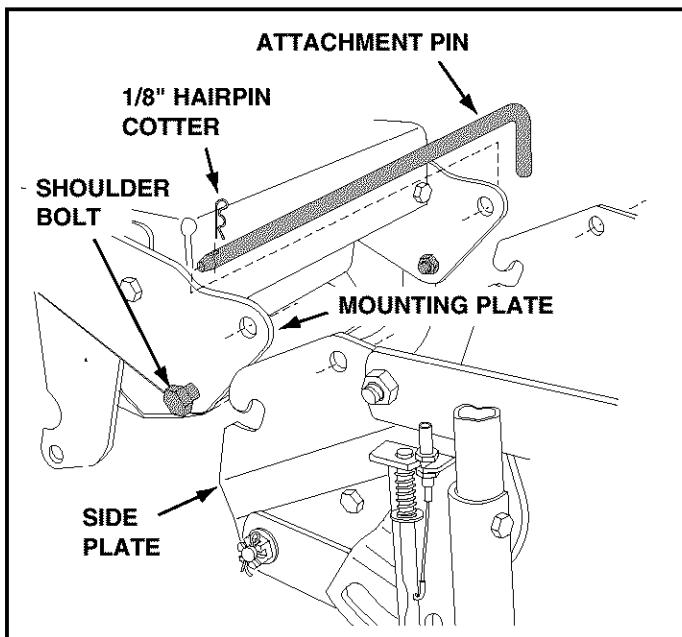
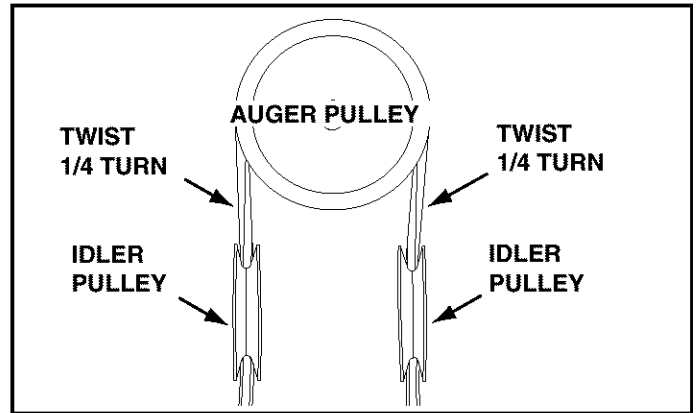

FIGURE 29
FIGURE 30
- To ease the assembly of the auger drive belt, delay the installation of the attachment pin shown in figure 29 until you have assembled the belt as instructed for figures 30 and 31.
- The auger belt comes preassembled to the pulleys on the snow thrower housing. Make sure the belt passes over the top of the auger pulley and then twists 1/4 turn to pass underneath each side idler pulley. The "V" side of the belt must mate with the grooves of the pulleys. See figure 30.
- Lift the front of the snow blower to align the holes in the mounting plates and the side plates. From the left side of the tractor install the attachment pin through the holes, securing it with the 1/8" hairpin cotter. Refer back to figure 29 on page 15.